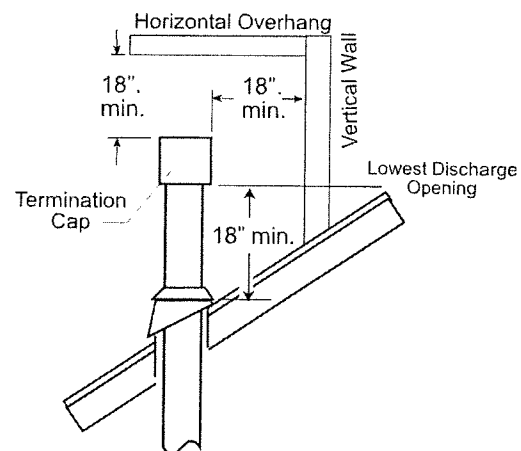

Figure 5.4
- Any horizontally-terminated vent system that includes a vertical run must terminate with the shaded areas in the diagram in fig. 5.4. See page 15 for important information regarding exhaust restriction adjustments.
- **GAS VENT HEIGHT:** In no case shall any discharge opening on the cap be less than 18" (457 mm) horizontally from the roof surface. See fig. 5.4.
**NOTE: The restrictor valve is set FULLY OPEN at the factory.** Use the Vent Termination Diagram, fig. 5.4, to determine which zone your vent termination falls within and make the appropriate exhaust setting adjustment. Consider this setting to be a starting point, from which further adjustments may be required depending upon the individual characteristics of your particular installation. There are no hard and fast rules.